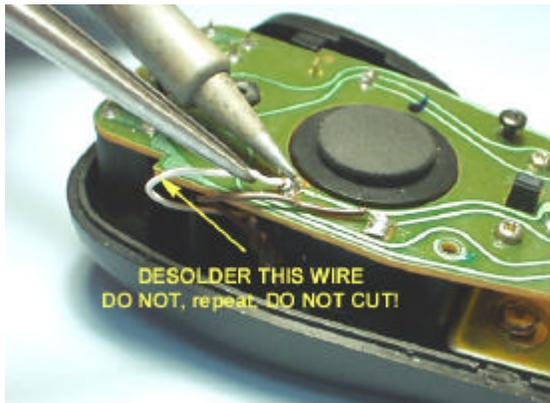
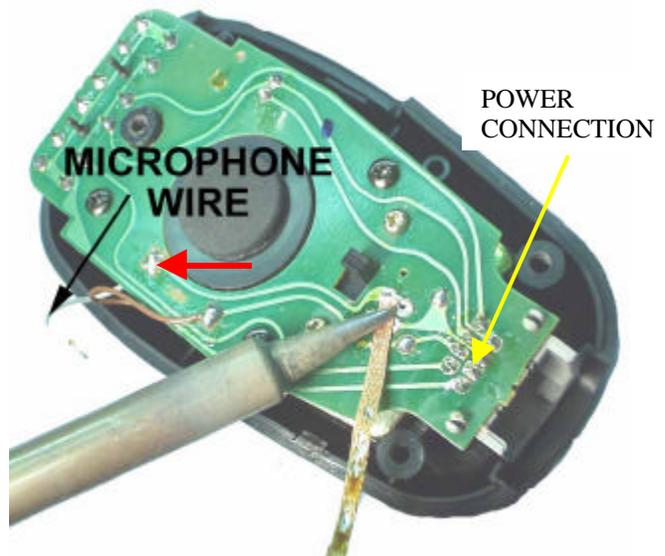
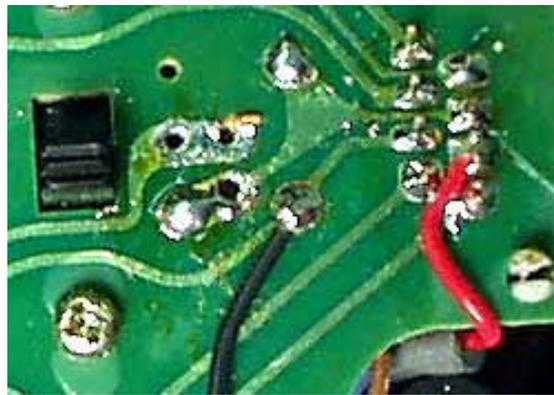

Figure 3a.
Figure 3b.
Figure 12.
- 3. Unsolder (see Fig. 3a) the white wire (from the microphone element) that is connected to the PCB at the location indicated by the red arrow in the Fig. 3. Next, using the supplied solder wick, remove the solder on the pads located as shown in Fig. 3b.
- 12. Carefully solder the red wire (with the four ferrite-beads) to the power connection as shown in Figs. 3b and 12. Note that this is the second terminal from the bottom as viewed in Fig. 12. DO NOT overheat this connection or any of the following connections.
- 13. Now solder the black wire as illustrated in Fig. 12.